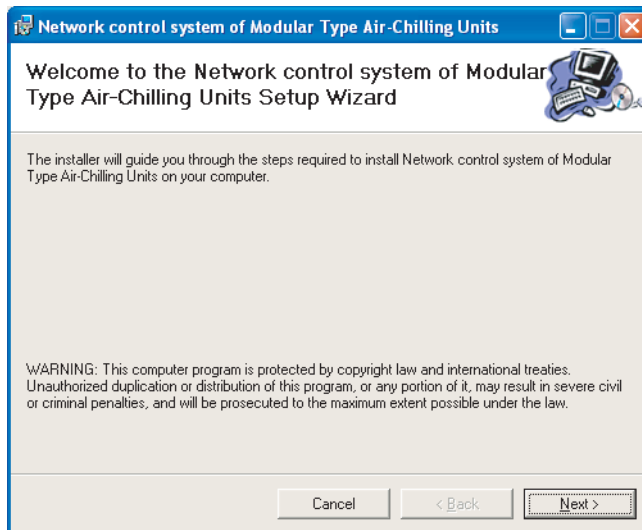

Fig. 2-25
- 1) Run the "Setup.exe" tool in the installation disc, window shows like Fig. 2-25 , click "Next" to continue the installation: